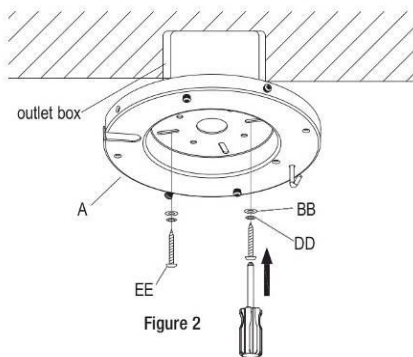

Figure 2
- Align 2pcs screws (EE/GG) through washers and then install screws (EE/GG) through mounting plate (A) onto the outlet box. If outlet box has thread holes, please use the screws - M4x25 (EE), washer - D4(DD) and washer - D15(BB). If outlet box doesn't have thread holes, please use the screws - ST4.8x77 (GG), washer - D5(CC) and washer - D15(BB), Figure 2.